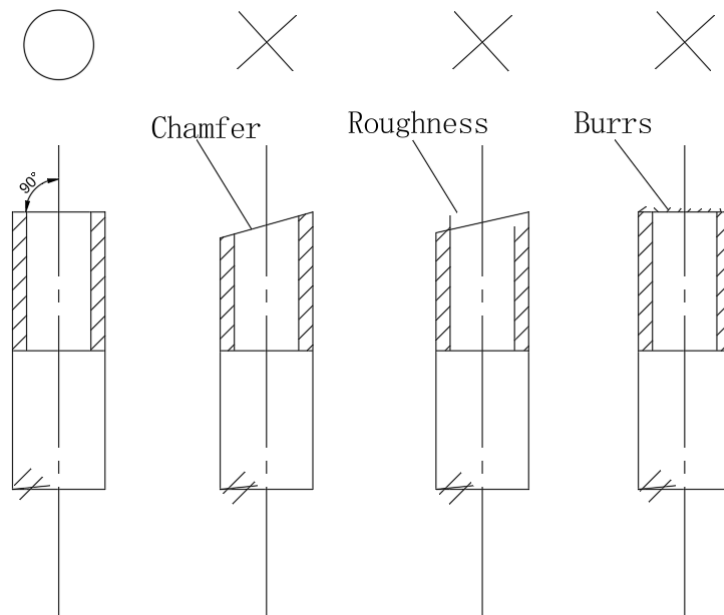

Figure 6.7 Flaring Requirements
Step 2: Remove service valve caps; flare pipe ends (see Fig.6.7 Flaring Requirements) ensuring smooth, concentric flares.